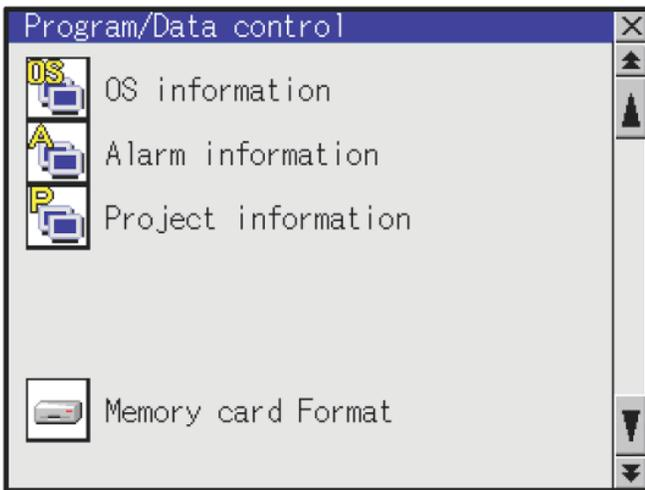
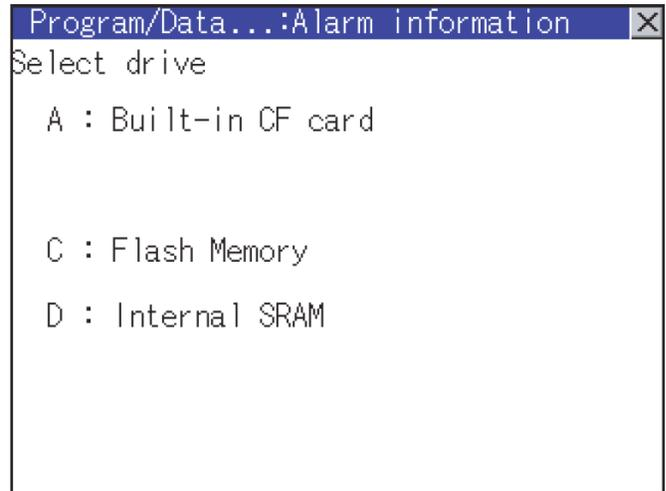
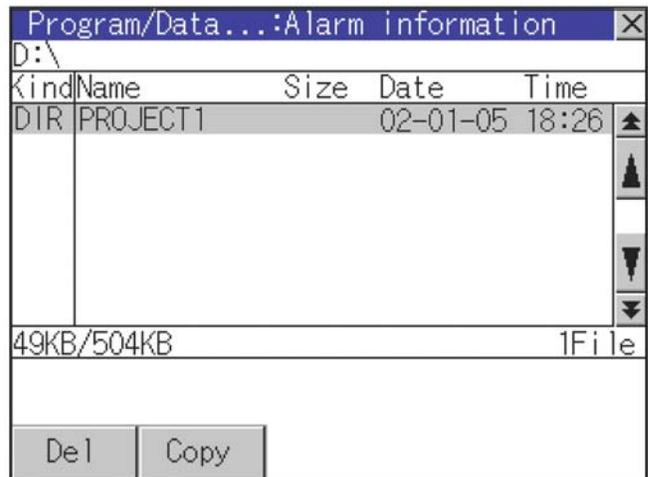

Fig E-22. Program/Data Control Screen
Fig E-23. Program/Data Alarm Information Screen
Fig E-24. Program/Data Project Selection Screen
Before saving the alarm history to a CF Card see section E.8.4, HMI CompactFlash (CF) Memory Card Installation for the proper procedure of installing and removing the CF Card. To write the alarm history to a CF card you must first navigate through the HMI screens to the history screen (See section E.3.3.). Once in the “History” screen select “SAVE” in the lower right corner to open the “Program/Data Control” screen (Fig E-22).
Select “Alarm Information” in Program/Data Control Screen (Fig E-22) to open the “Program/Data Alarm Information” screen (Fig E-23).
Select “D: Internal SRAM” in Program/Data Alarm Information screen (Fig E-23) to open the “Program/Data Project Selection” screen (Fig E-24).
Select “PROJECT 1” by touching it on the screen to open the alarm history folder for the unit (Fig E-24).